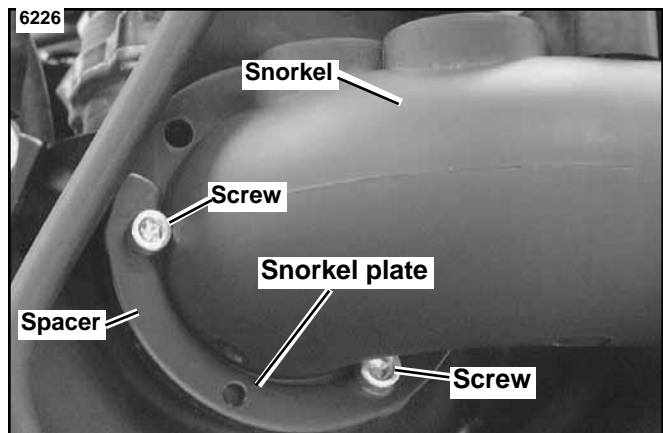

Figure 14. M2 or S3 Stock Snorkel Plate
8. See Figure 14. Remove two screws and snorkel plate. Remove snorkel.